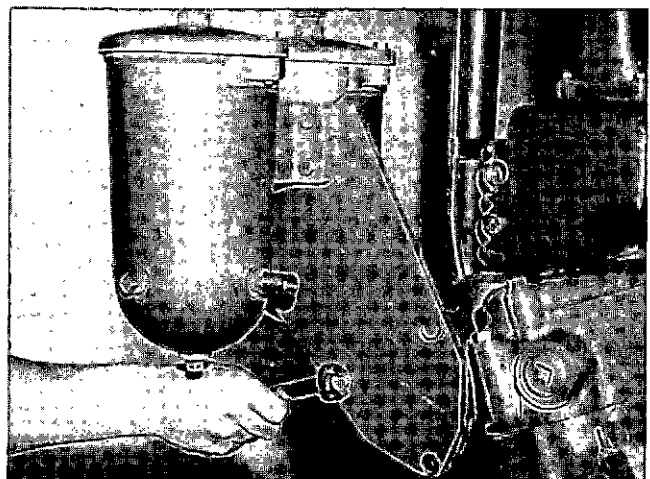

Fig. 0-10, V40042. Removing corrosion resistor bracket
3. Remove capscrews and lockwashers securing corrosion resistor bracket, Fig. 0-10, to intake manifold or other location; remove corrosion resistor assembly.